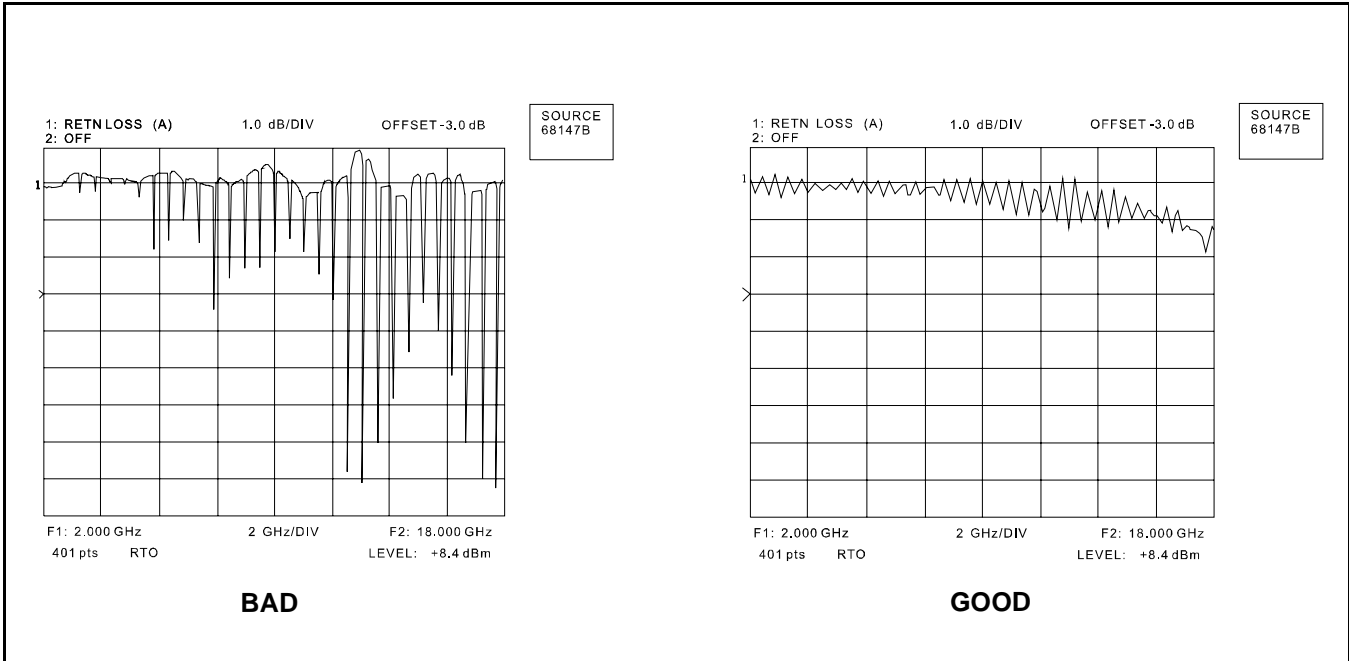

Figure 7. Examples of Good and Bad Air Line Connections
7. Connect the beadless end of the air line to the SWR Autotester test port. Pay careful attention to making a good connection. Refer to Figure 7, which shows examples of good and bad connections. If you are using 19SX50 series air lines (WSMA connectors), use a compensation washer.